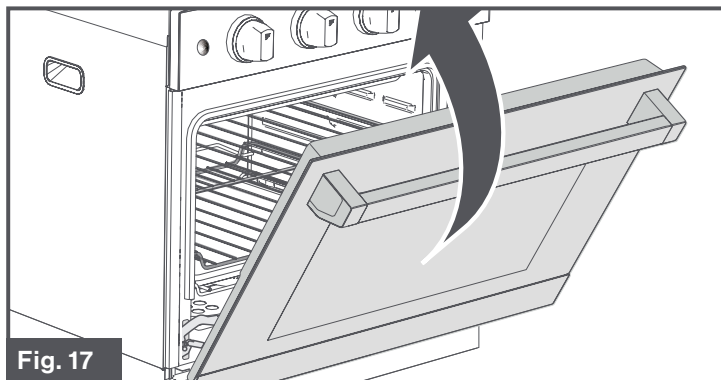

Fig. 17
4. Close the door until it stops. (Fig. 17)